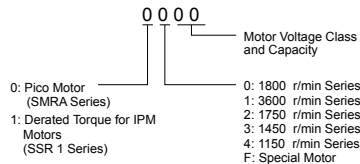

Figure 5.42 PM Motor Code
*Figure 5.42* explains the motor code setting.